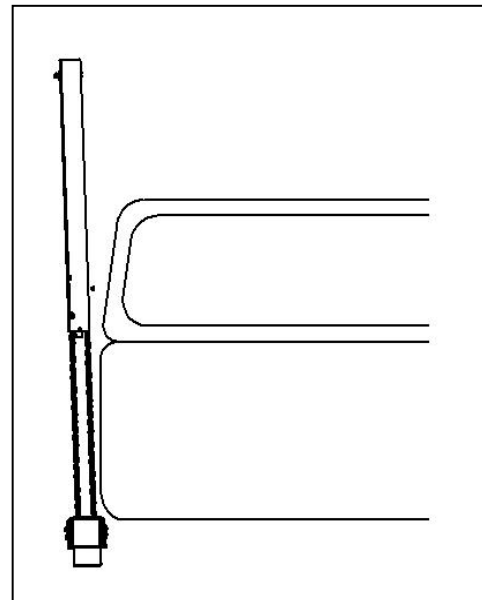

FIGURE 2
3. Adjust sampler from left to right keeping it slightly beyond vertical to the outside as shown in **Figure 2**. This will compensate for any initial upward movement of the pickup when sampling. Tighten all adjusting bolts.